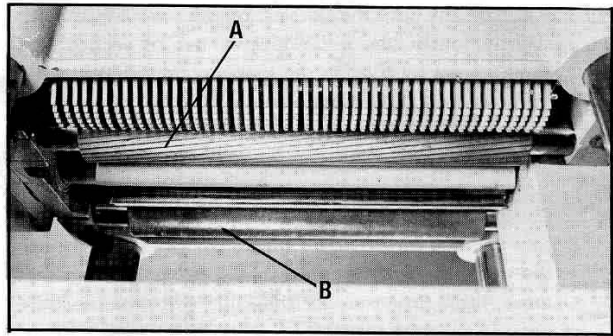

Fig. 50
The infeed roll (A) and outfeed roll (B) Fig. 50, are those parts of your planer that feed the stock while it is being planed. The feed rolls (A) and (B) are under spring tension and this tension must be sufficient to feed the stock uniformly through the planer without slipping but should not be too tight that it causes damage to the board. The tension should be equal at both ends of each roll.